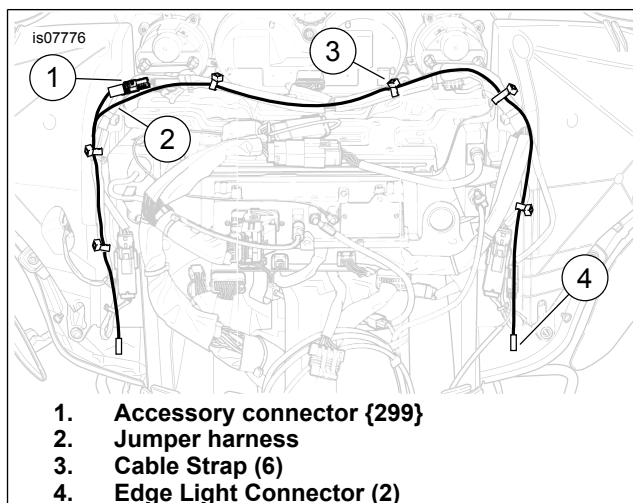

Figure 4. Fairing Edge Lights, Harness Connection
- See Figure 4. Obtain the jumper harness. Remove and discard the dust cover from the Accessory Connector {299A} (1) and plug in the jumper harness (2).